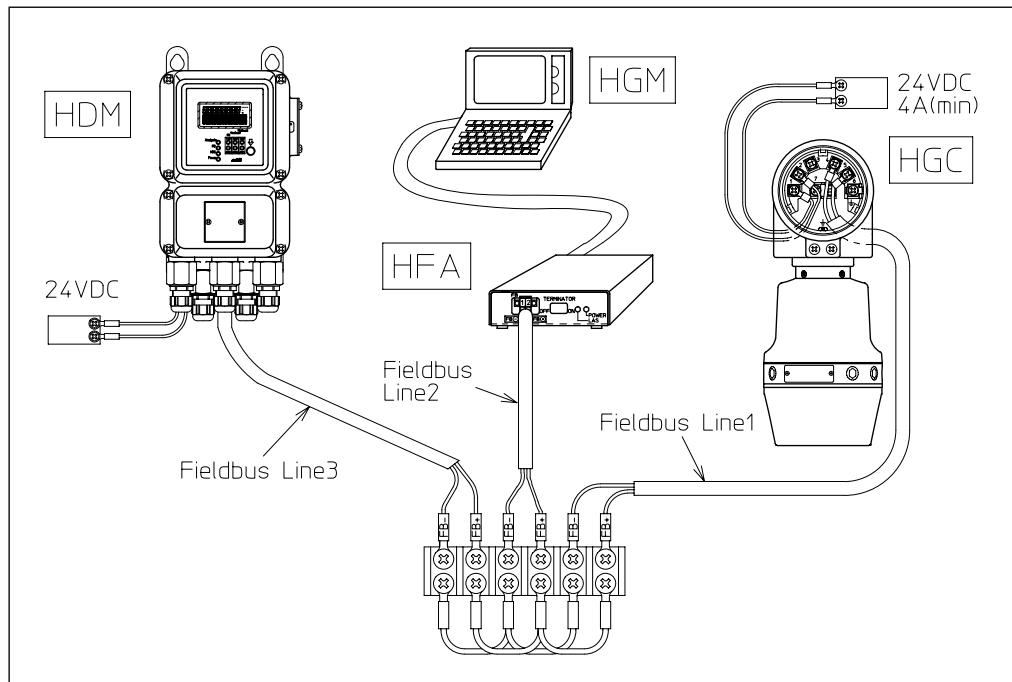

Fig. 3-2 Model HGC303-HGM connection example (combination of model HGC303, model HDM303 and model HFA100)
- (1) Make sure that both the model HGC303 and the model HDM303 are running normally.
- (2) Prepare a personal computer, which has the HGM installed.
- (3) Verify that font size is [Small font] and the display resolution 1024 Å ~ 768 pixels.
- (4) Connect the model HFA100 along the FB line. (Refer to Fig. 3-2.)
- (5) Connect the USB cable to the USB port of your PC.
- (6) Make sure that the model HFA100 installation is correct.
- (7) Check that you have implemented section "2-3-6. Setting the folder access rights"
- (8) Run the HGM port set program [ComSetHGM.exe].